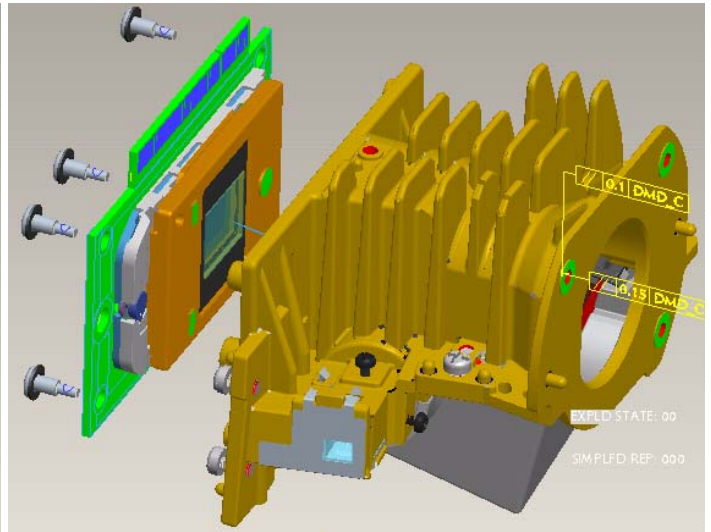

Fig. 10-2
10.2 Assemble Chip B/D Module to HSG DMD and fasten the screw(Fig. 10-2)